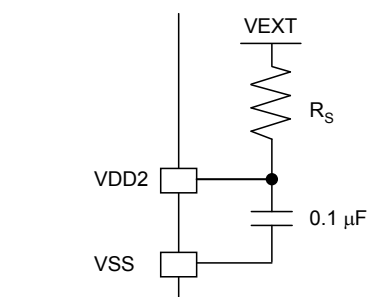

Fig. 1
- When the external supply voltage  $V_{EXT} = 4.5\text{ V}$  to  $5.5\text{ V}$ , connect a 5.1-k $\Omega$  resistor  $R_S$  between VEXT and VDD2 as shown in Fig. 1.